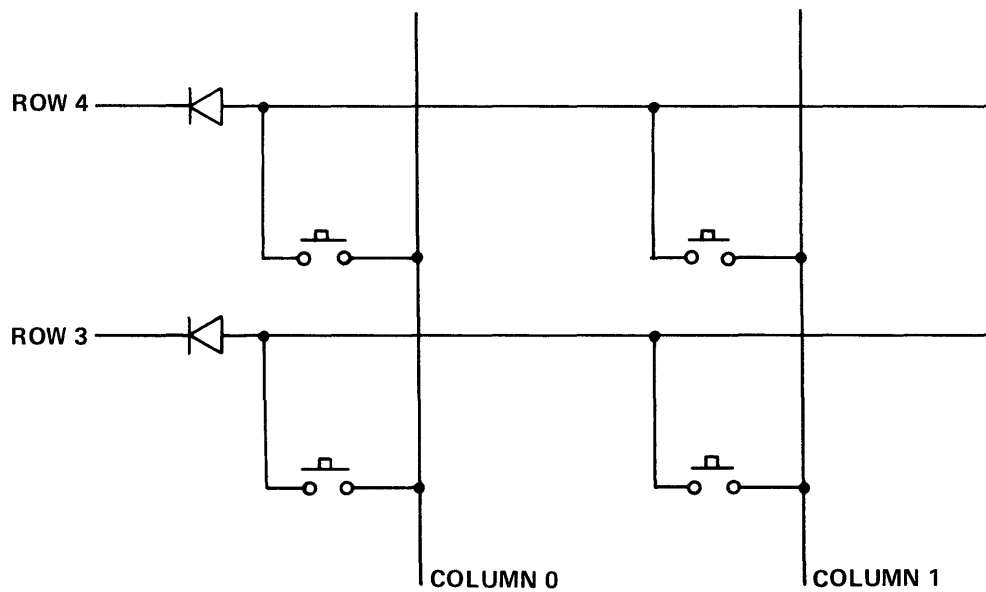

Figure 4-16b Keyboard Matrix Simplified Diagram (Model 820 RO)
4.4.2.2 RO Keyboard. Current flow continues from the keyswitch differently depending upon whether the switch is located in the operator's keypad or in the operator control panel section of the keyboard. If the depressed switch is in the operator control section, current flow proceeds exactly as in the KSR keyboard (See Section 4.4.2.1). Otherwise, current proceeding through the keyswitch enters the enabled row immediately, but is then passed through a diode, and then to the interface. The diode in this case prevents current flow from an unenabled row to an enabled row as in the KSR keyboard, but does not allow for n-key rollover. (See Figure 4-16b).